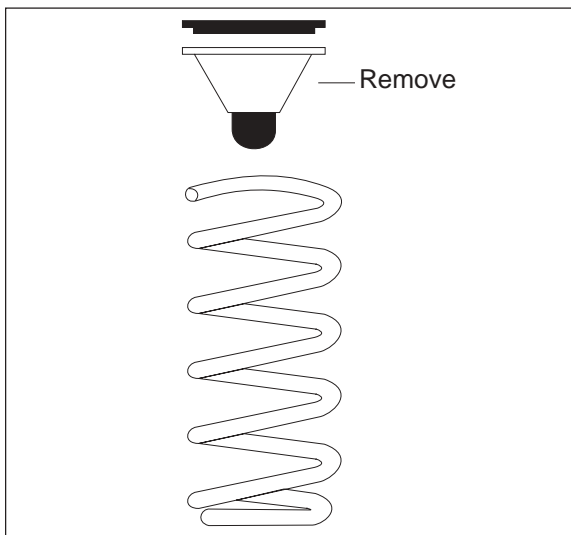

Figure 3
- a. Remove the upper bound bumper/cone assembly with coil spring (Figure 3). The bumper/cone assembly will not be reused, as the air cylinder replaces their function.